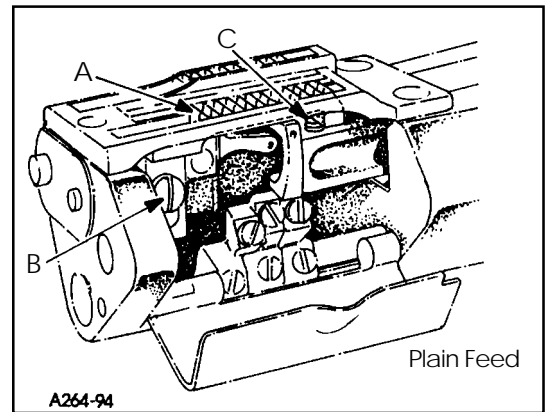

FIG. 11
Assemble the main feed dog and throat plate. Main feed dog (A, Fig. 11) at its highest position, should be set to project above the throat plate, slightly more than the depth of its teeth for Style 35800BQWG. The feed dog mounting screw (B) and front support screw (C) should be set to maintain this setting.